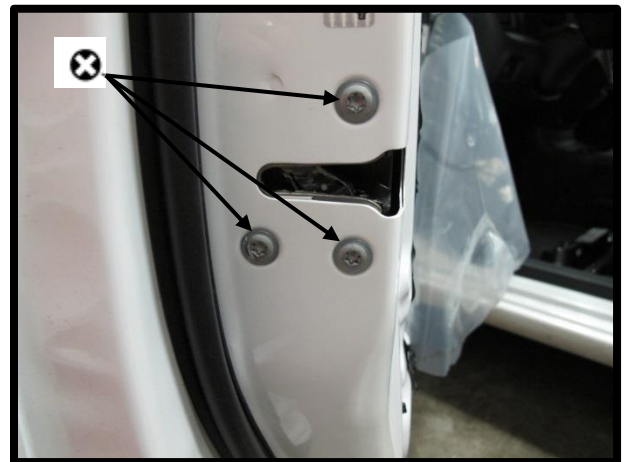

Figure 9
- Remove the (3) T-27 Torx head bolts and discard (**Do NOT reuse**). See Figure 9.